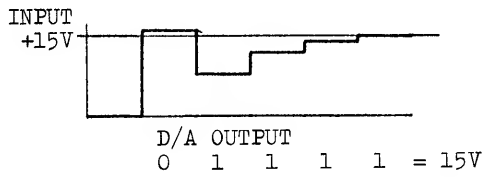
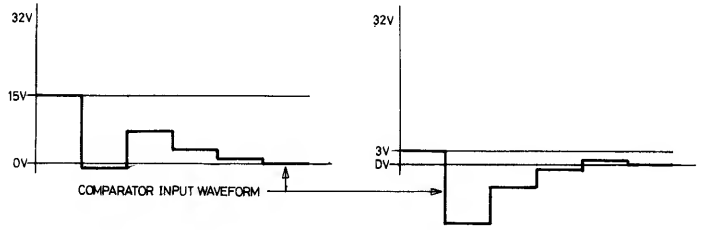

Fig. 1B
Fig. 3A
Assume that the system measures input voltages up to 31V with 5 bits, 1 bit/V resolution, for easier calculation. Initially, all FFs are reset, then FF4 is set which produces the most significant DC voltage (16V) at D4, which is in turn compared with input voltage (example, 15V). The comparator output goes low, resetting FF4, D4 goes 0 volts. FF3 is set in the same manner and delivers 8V at D3, exactly one-half the voltage of D4. The comparator output is high and FF3 remains set. Next, FF2 is set and total voltage (8V + 4V) from two FFs is now compared with the input voltage. The process is repeated for the remaining FFs. The state of the FFs after comparison against input voltage represents the digital value of the input signal. (Fig. 1B)
The voltage graph in Fig. 3A is an inverted image of Fig. 1B. When the most significant register in IC25 is set, it delivers low output (0 volts). Bits 01111 are sent via DATA SELECTOR to D-A converter IC3. With this data applied IO pin of IC3 draws from IC5 output the current which develops 15V across R87 (3K ohms). IO pin also draws from S/H output the current corresponding to inverted 01111 or 10000, causing voltage drop of 16V across R79 (3K ohms). The variation of currents at IO and IO pins is complementary, that is, the amount of current flowing into IC3 is always constant; when IO pin draws more current, IO pin decreases the same amount. (Differential Output Currents) Voltage at (-) pin of IC2 becomes -1V (15V - 16V), changing its output to H, resetting D11 in IC25 - D11 changes from L to H. After all MSB 5 registers have been subtracted from input signal and tested against 0V, the configuration of registers will be 10000 = 16 (V). Why is 16V data proportional to 15V input? 16 volts is what will be developed across R87 and D-A output will be 31V - 16V = 15V. Since comparator wants to know only relative voltage difference between the input pins, absolute voltage value is not necessary at (-) pin of IC2. Diodes keep the voltage range within diode drops ( $\pm 0.6V$ ).